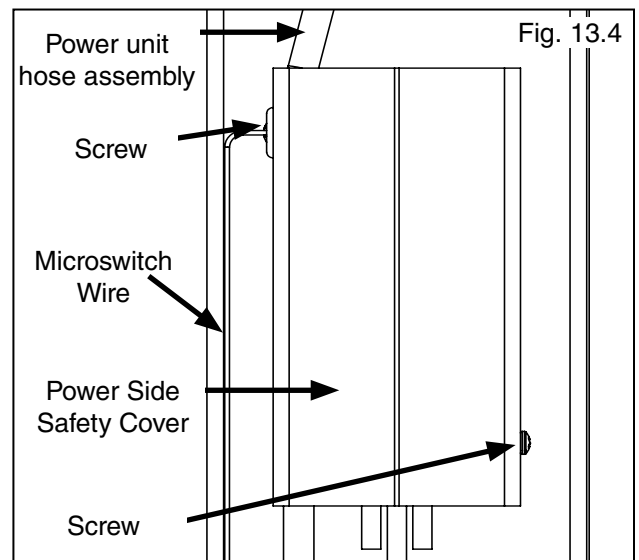

Fig. 13.4
4. After safeties have been adjusted and checked for proper operation, install and tighten Power Side safety cover and Off Side safety cover mounting bolts. (See Fig. 13.4 and 13.5)